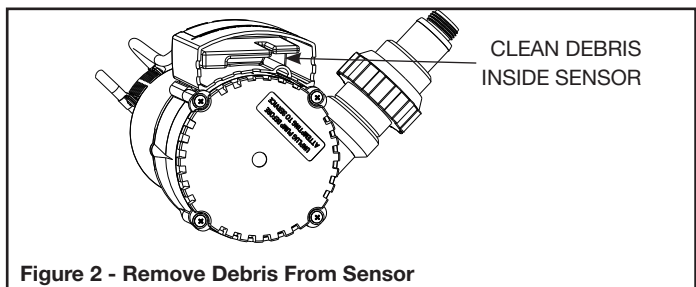

Figure 2 - Remove Debris From Sensor
7. If pump runs continuously, unplug the unit. Once unplugged, remove the strainer and check for debris stuck inside the sensor body (Figure 2). Remove any trapped leaves, debris or dirt.